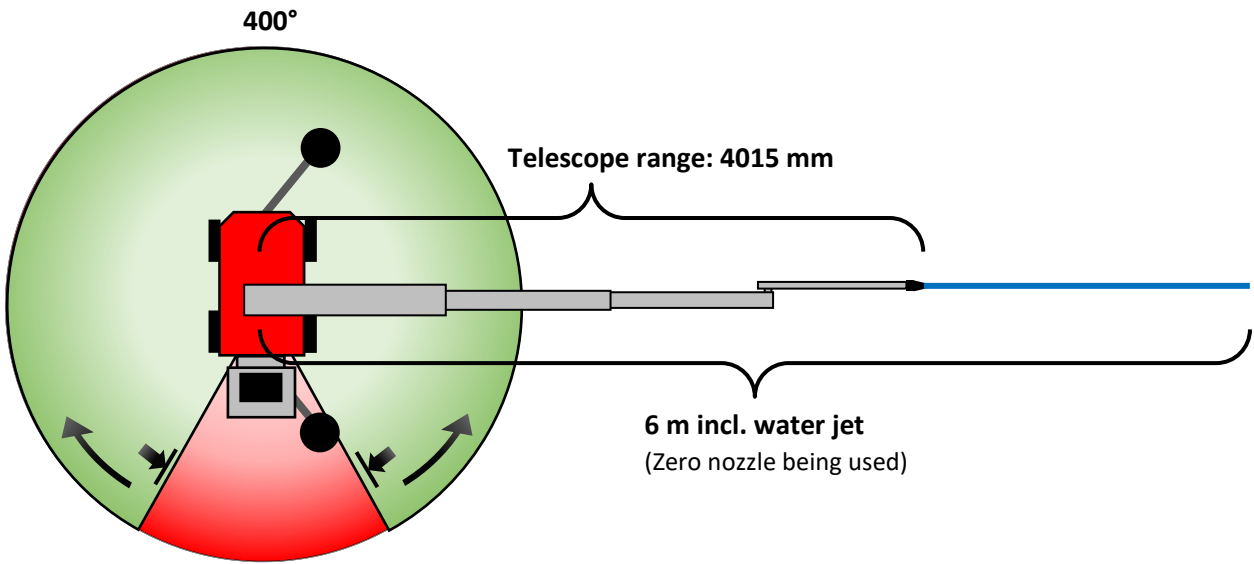

Figure 3, reach of the arm and safe tower working range
- During cleaning behind the robot in the marked area in Figure 3, there is a risk of overturning that is dependent on the ground and the position of the boom, telescope and arm. If working in this area the recommendation is to have the telescope in its most retracted position.